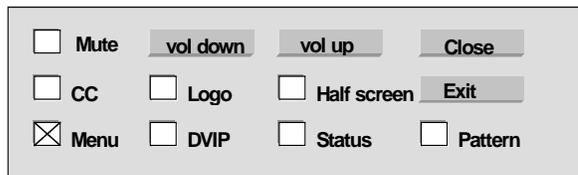

Figure 4-2. Pref Screen
- **Pref:** Displays additional controls, shown in Figure 4-2.
Press CTRL-Break, 'q' key or click Exit on the Pref screen (see Figure 4-2) to quit the vtest application and return to the **[root@cygnus /root]#** prompt. At the prompt, you can rerun Vtest, run WebMedia, or shutdown.